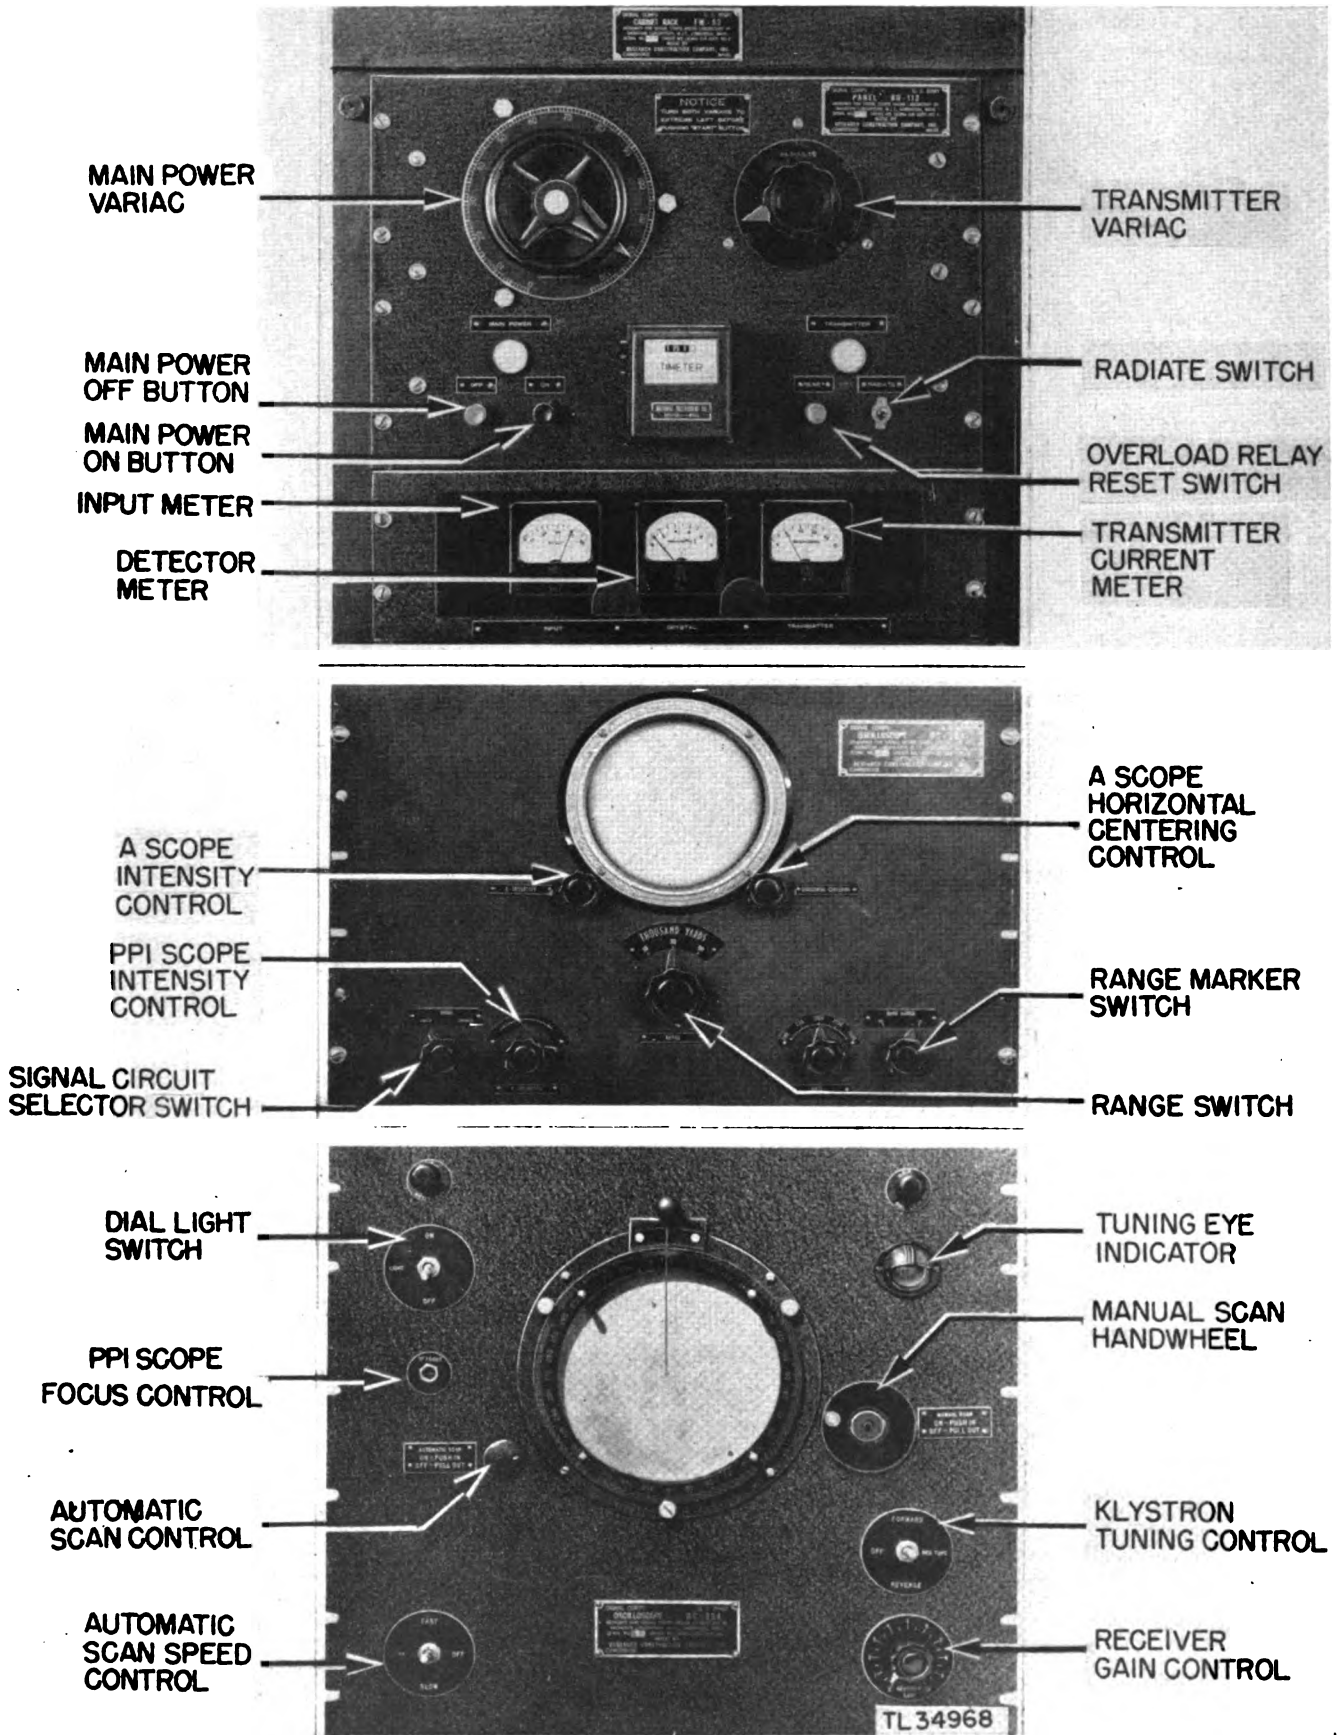
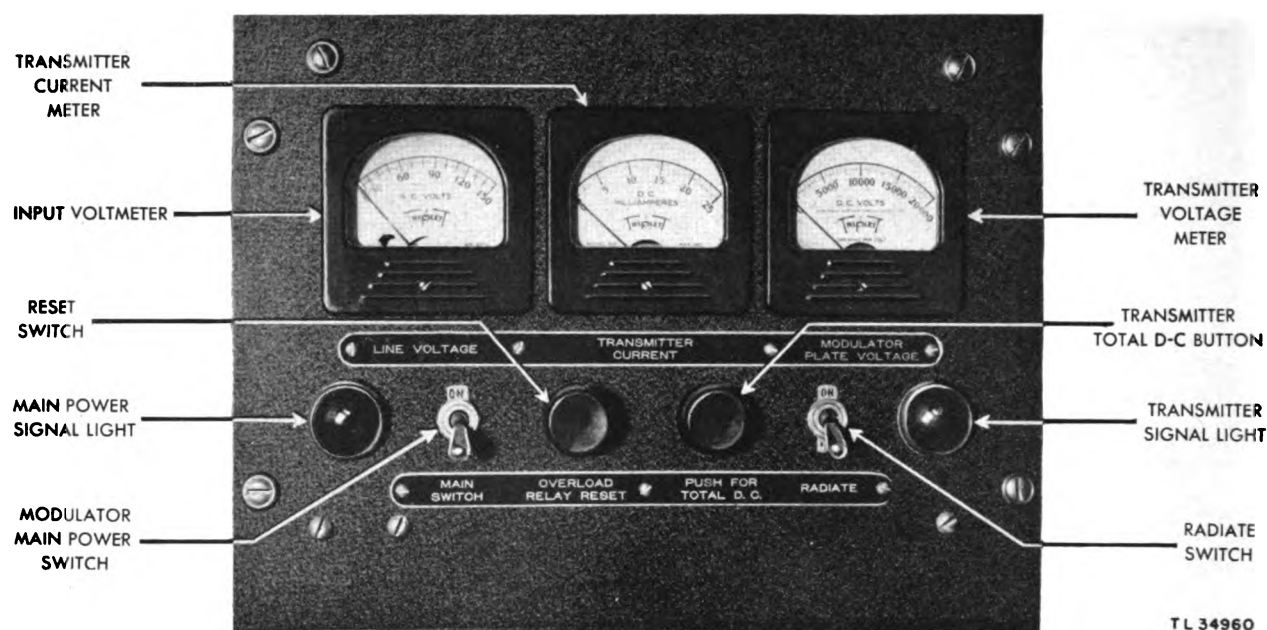

Figure 23. Controls on control cabinet.
Figure 24. Control and instrument panel of transmitter cabinet.
of the assembly. Turn the MAIN POWER variac and the TRANSMITTER variac on the control cabinet (fig. 23) all the way to the left, and turn the MAIN SWITCH on the transmitter cabinet to OFF (fig. 24). This last precaution is to keep the high-voltage driving power out of the modulator and allow an independent check of controls and indicators without operating the transmitter. Turn the P-INTENSITY and the A-INTENSITY controls fully counterclockwise.
b. Turn on the main power at the control cabinet by pushing the MAIN POWER ON button. Turn up the MAIN POWER variac until the INPUT meter on the control cabinet reads 115 volts (fig. 23). Turn up the P-INTENSITY and the A-INTENSITY controls. In about 15 seconds, the A-scope and the PPI scope will show their characteristic bright traces or sweep lines — a horizontal sweep on the A-scope, passing through the center of the screen, and a radial sweep on the PPI scope, starting at the center of the screen and extending in a straight line to the outer edge. Both sweeps should appear stationary.
c. Adjust the P-INTENSITY and the A-INTENSITY controls (fig. 23) until the sweep traces are bright enough to be seen clearly, but not so bright as to produce excessive illumination or "blooming" on the fluorescent screens. This is particularly important on the PPI scope.
(1) Set the RANGE control to 10,000 yards and check to see that there are five pips on each sweep line. The outermost range pip on each sweep should be visible at the edge of the screen.
(2) Set the RANGE control for 30,000 yards and then for 90,000 yards, and check again that the pips appear. There should be six pips clearly visible on each sweep for these two ranges. Note that the range pips on the A-scope vanish when the SIGNAL circuit selector control is returned to the UNLIMITED position.
k. Make sure that the switch marked RADIATE (fig. 24), on the control panel of the transmitter cabinet, is turned to the OFF position. This is its position for normal operation of the equipment. If this switch is on, the duplicate switch located on the panel of the control cabinet will not turn the transmitter off. It is intended that all operation of the equipment be centralized at the control cabinet. Turn the MAIN SWITCH on the modulator cabinet to ON, and check all tubes in that cabinet for filament glow. This can be done easily by opening the upper left-hand door of the cabinet and looking into the interior. This door is not provided with circuit-breaking interlocks, since it does not give immediate access to points of dangerously high voltage as do the doors just below it. At this point the blower motor for cooling the transmitter cabinet should be running and easily heard.